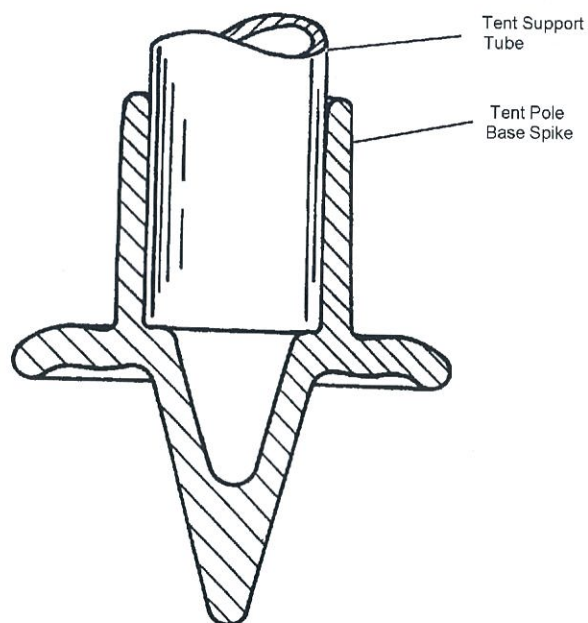

Figure 5-5 — Tent Pole Base Spike
12. The base provides a firm footing for the tent poles (supports), as shown in Fig 5-5.